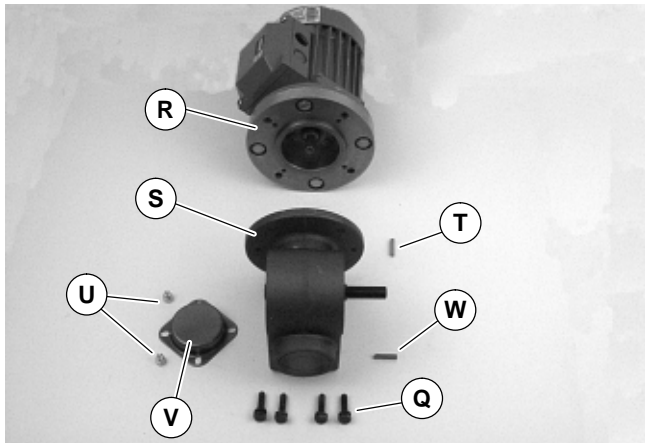

Figure 14
6. Remove four screws (Q of Figure 14). Detach motor with adapter flange (R) from gear reducer (S). Retain motor output shaft key (T).
12. With key (T of Figure 14) in keyway, slide motor with adapter flange (R) and gear reducer (S) together. Install screws (Q) and tighten.